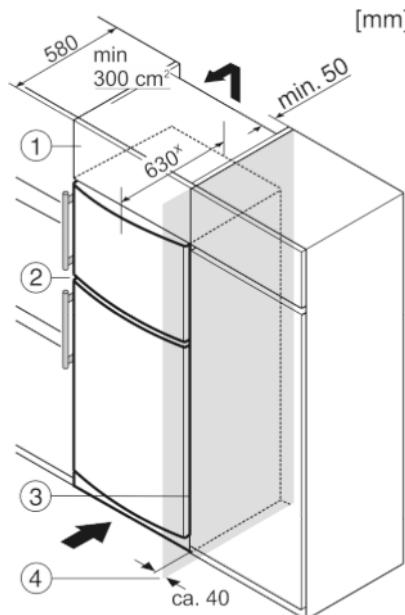

Fig. 9
- (1) Stack cabinet
(2) Appliance
(3) Kitchen cabinet
(4) Wall
The appliance can be built into kitchen units. A top cupboard Fig. 9 (2) can be added above the appliance in order to bring the appliance Fig. 9 (1) up to the height of the fitted kitchen units.
When installing with kitchen units (max. depth 580 mm), the appliance can be positioned directly next to the kitchen cabinet Fig. 9 (3). The appliance will project by 34 mm* at the sides and 50 mm* in the centre of the appliance in relation to the kitchen cabinet front.
If the appliance is installed with the hinges next to a wall Fig. 9 (4), the distance between appliance and wall has to be at least 40 mm. This corresponds to the projection of the handle when the door is open.